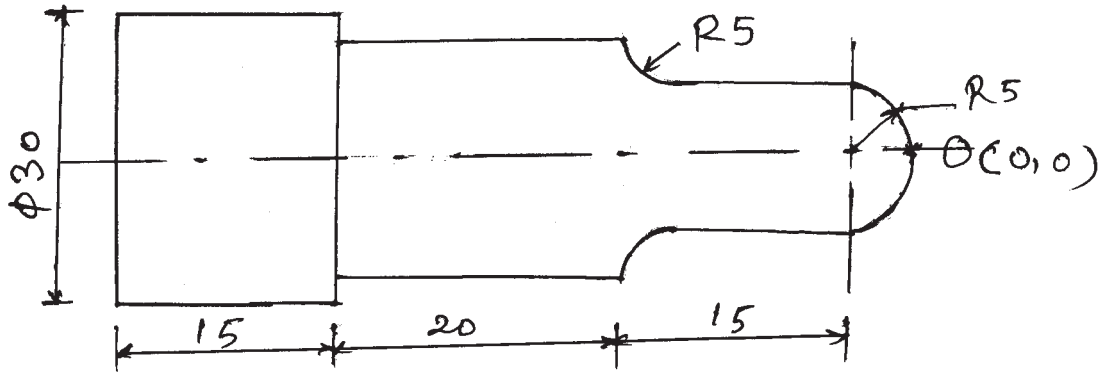

Fig. No. 1.
- a) Write a part program for the following part as shown in Fig. No. 1. Assume suitable machining data. The raw material size is $\phi 35 \times 60$ mm long.